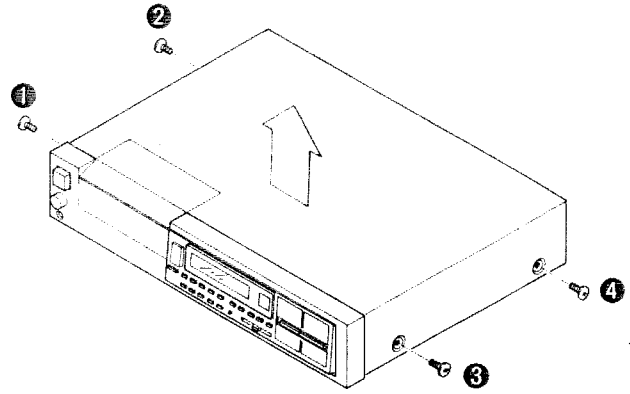

Fig. 1
1. Remove the 4 setscrews [Fig. 1: ① ~ ④] of cabinet.
2. Remove the cabinet in the direction of the arrow. [Fig 1]